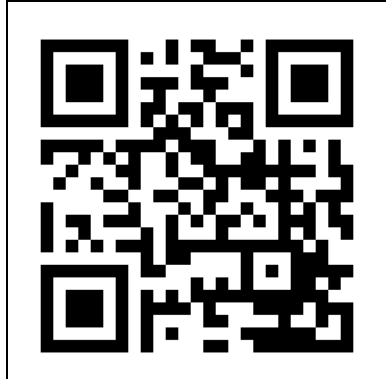

Figure 19
1. Open the Eurom Smart App manual with the QR code (Figure 19) or go to www.eurom.nl/nl/manuals.